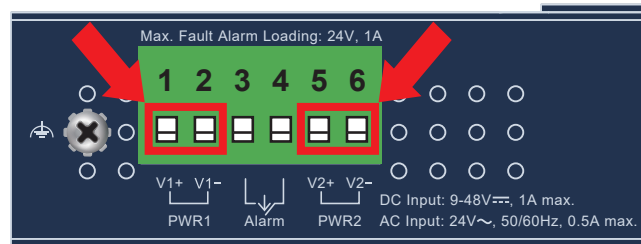

Figure 3-1: IMG-3100T/IMG-3105AT Upper Panel
1. Insert positive/negative DC power wires into **Contacts 1 and 2** for **Power 1**, or **Contacts 5 and 6** for **Power 2**. Figures 3-1 to 3-3 show PWR1 and PWR2 of the Industrial Modbus Gateway.